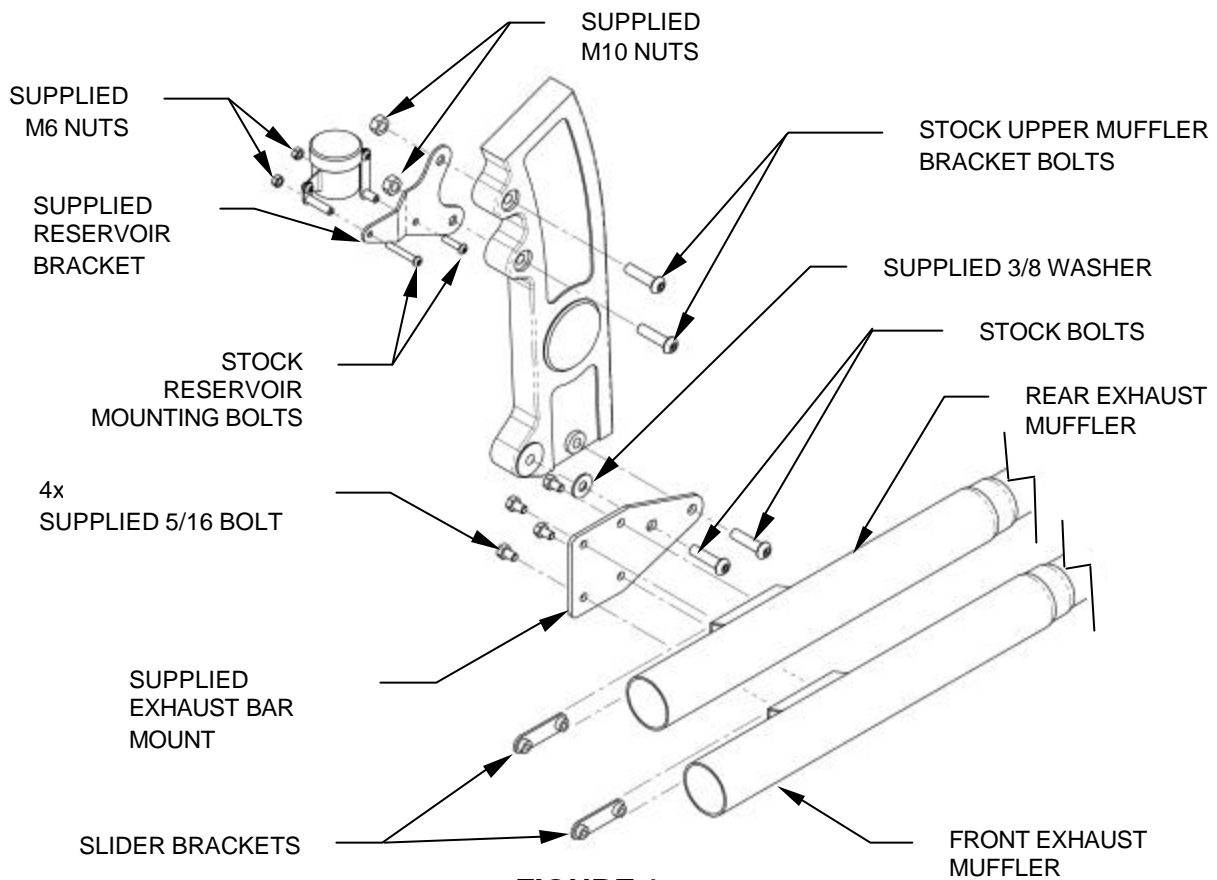

FIGURE 1
3. Install the supplied brake reservoir bracket where the stock upper muffler bracket was located using the stock M10 bolts and the supplied M10 nuts. See figure 1 for bracket orientation.
4. Mount the rear brake reservoir between the bracket and wheel using the stock bolts and supplied M6 nuts. (See figure 1)
5. Mount the supplied exhaust mount to the motorcycle with curved side up using the stock bolts making sure to place the supplied washer between the bracket and frame aligning it with the rear hole, do not tighten completely. (See fig 1)